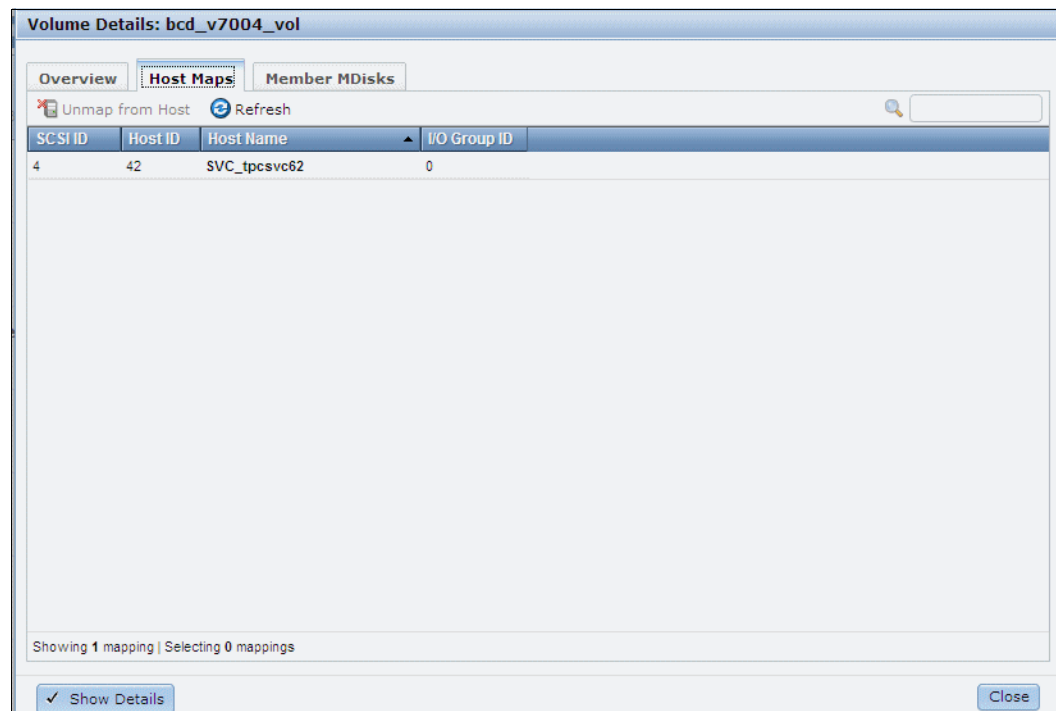

Figure 3-11 Storwize Volume Details for Host Maps
- On the Host Maps tab (see Figure 3-11), check the SCSI ID number for the specific volume. This value is used to match the Spectrum Virtualize ctrl_LUN_# (in hexadecimal format).